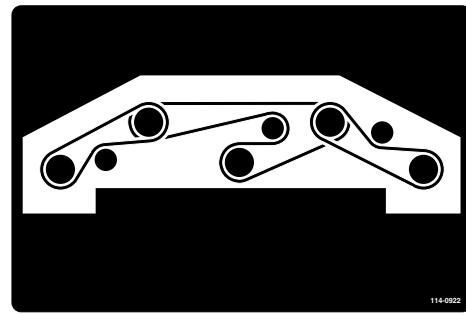

Figure 116
8. Route the new belt around the spindle pulleys and idler-pulley assembly (Figure 116).